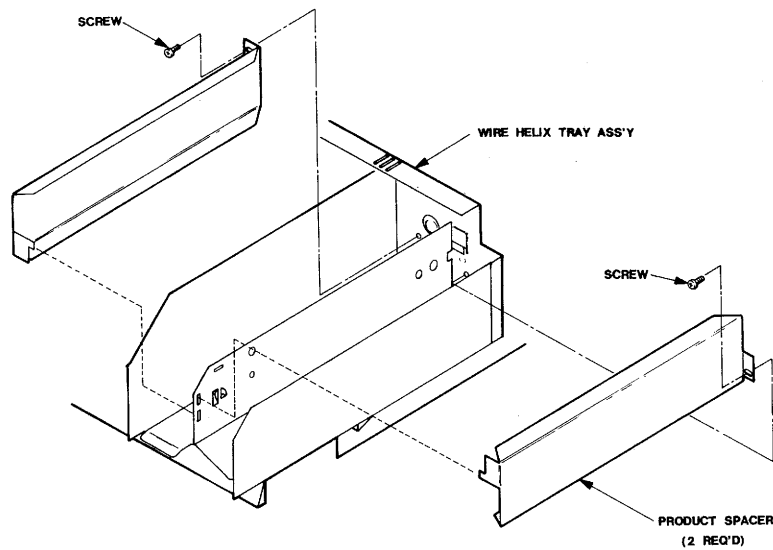

FIG. 1
6. Stretch or compress the front coil on the Helix and align with the front of the Gum and Mint Rack, as shown by the arrow in Fig. 1.
2. Remove one Motor Mounting Screw. Insert one of the Product Spacers and attach by putting screw in slot when replacing screw. (See Fig. 1)
3. Now repeat step #2 for the opposite side. (See Fig. 1)